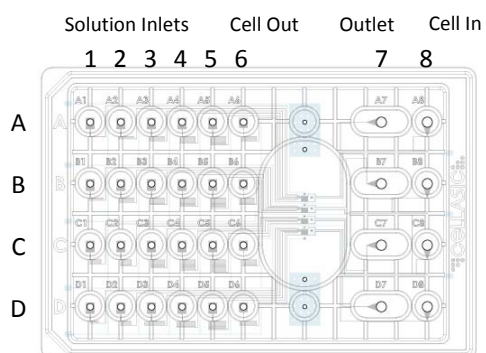

Figure 1. Plate Layout
1. The B04A microfluidic plate contains 4 parallel chambers, each with 5 solution inlets (Figure 1). Each row of wells (A-D) addresses the corresponding chamber. The plate is shipped pre-primed with sterile PBS, which can be replaced with a buffer of choice prior to experiment.